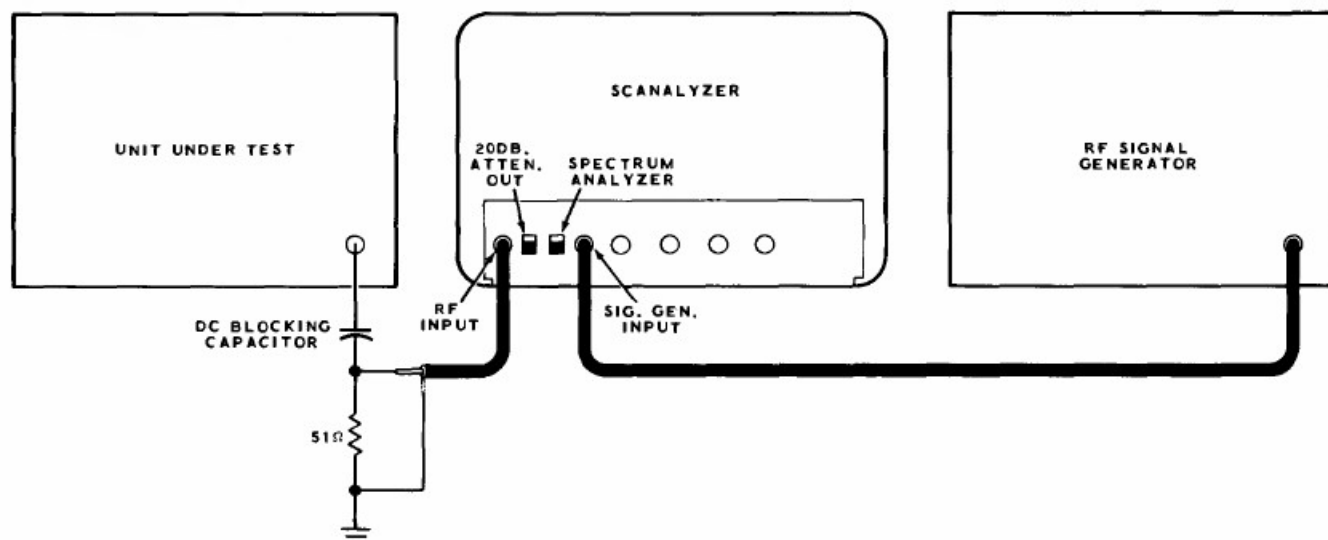

Figure 37
The Scanalyzer, when used as a spectrum analyzer, can be used to check such things as oscillator stages for harmonic levels, parasitics, etc.; mixer stages for signal and oscillator feed-through and mixer products; and linear amplifiers for distortion products. See Figure 37 and refer to the following instructions.
- () To display two RF signals on the screen, follow the procedure listed under the heading "The Scanalyzer As A Basic Test Instrument," and connect the test signal cables as shown in Figure 37, except that the connection between the unit under test and the Scanalyzer should be made as shown in Figure 41. **NOTE:** Be sure the two audio signals modulating the transmitter are low in harmonic content or that the two tones selected are such that their harmonics fall outside the passband of the filter in the transmitter.